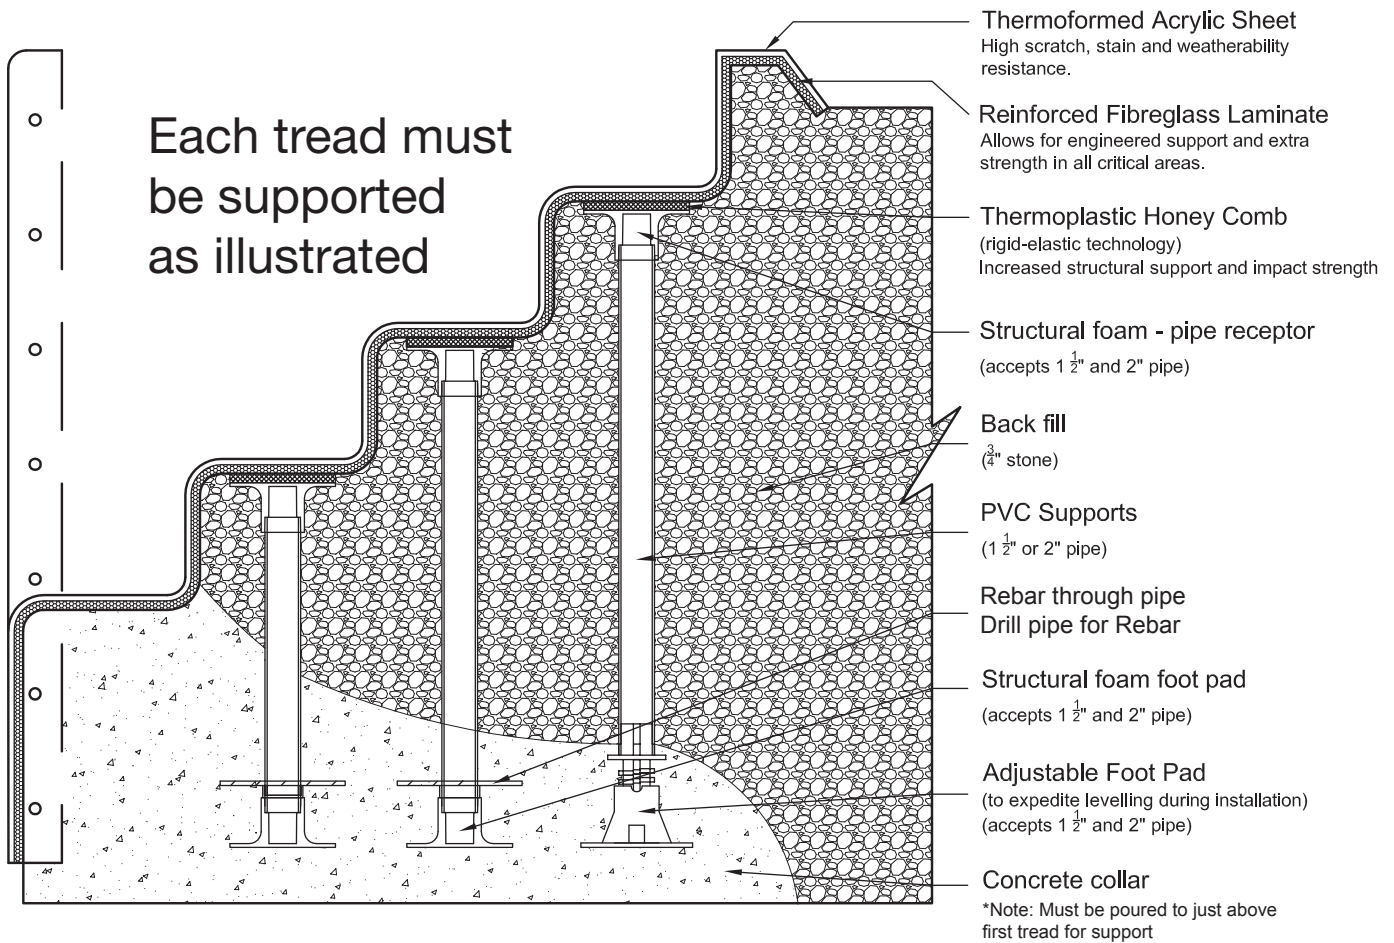

FIGURE 5. - Illustrating cross section of Figures 2 and 2a.
10. Across the front base of the step unit place a 2 x 4 or similar blocking and stake it in place. This blocking supports the step unit while the concrete collar is being poured. The concrete collar must be poured just above the bottom step for support and to avoid moisture in the backfill from freezing/expanding between the footing and bottom step. Fig. 5
11. Backfill the step unit, the same as the pool wall, taking extra care to eliminate voids under the steps by compacting. Backfill to just above the top flange as shown in Figure 5.